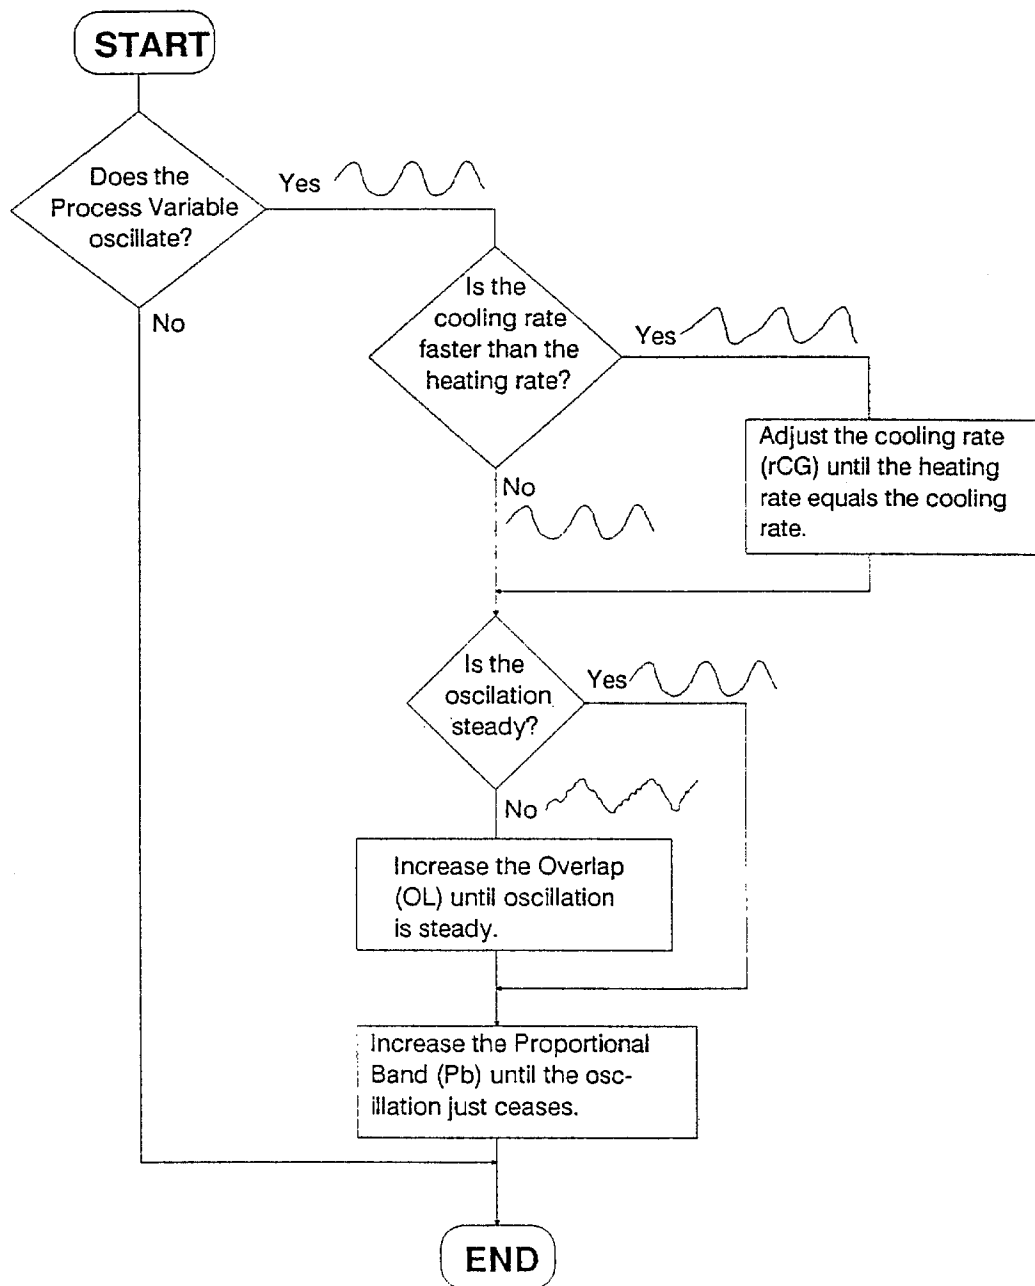

Figure 4-3 Tuning Procedure - OP1 & OP2 Fitted
1. Set the Deadband/Overlap (OL) to 0%.
5. Follow the instructions shown in Figure 4-3.